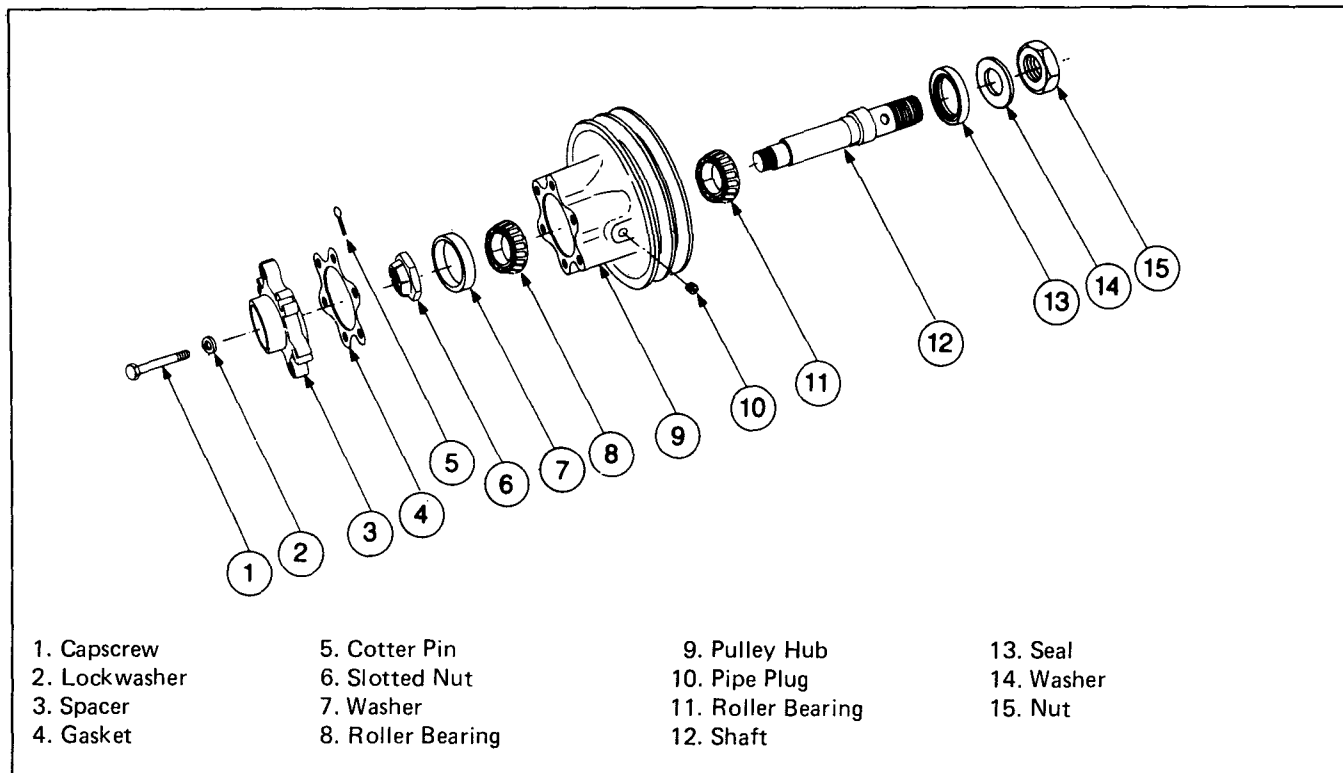

Fig. 8-21, (N10895). Fan hub assembly — exploded view
1. Remove pipe plugs, pilot (3, Fig. 8-21), gasket (4), cotter pin (5), fan pulley slotted nut (6) and clamp washer (7) from fan hub shaft (12).
2. Support hub (9) on arbor press with small end of shaft up. Press shaft from hub.
3. Press bearings (8) and (1) and oil seal (13) from shaft.